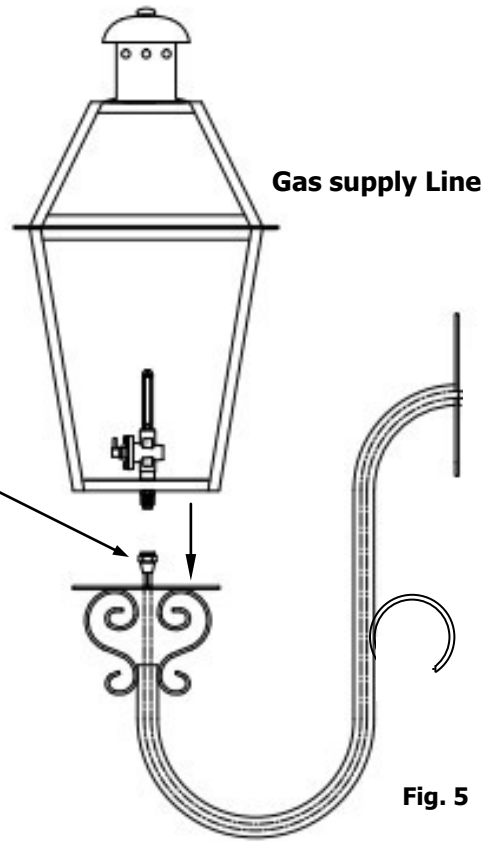

Fig. 5
6. Connect the gas line from the Gooseneck onto the Bottom of the lantern. Figure 5.